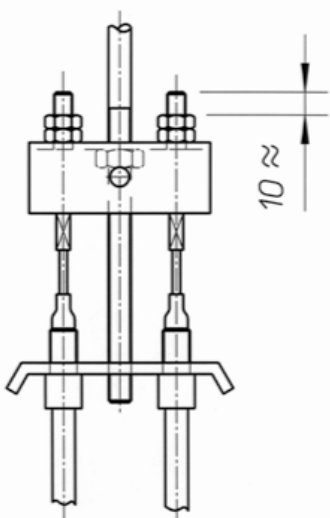

Figure 4.3: Cross bar fitting
- ❶ After fitting the wheels on the axle, turn the wheels in the FORWARD direction (on all RA 2 type brakes, check that the adjustment screw 8 reaches the "FORWARD" stop on the brake backing plate).
- ❷ Adjust the brake setting using screw 8, with the cables not connected to the cross bar(s). The shoes should rub the drum slightly.
- ❸ Connect the brake cables to the cross bars(s) and tighten the nuts and lock nuts, leaving the end of the threaded end protruding by around 10 mm (Fig. 4.3).